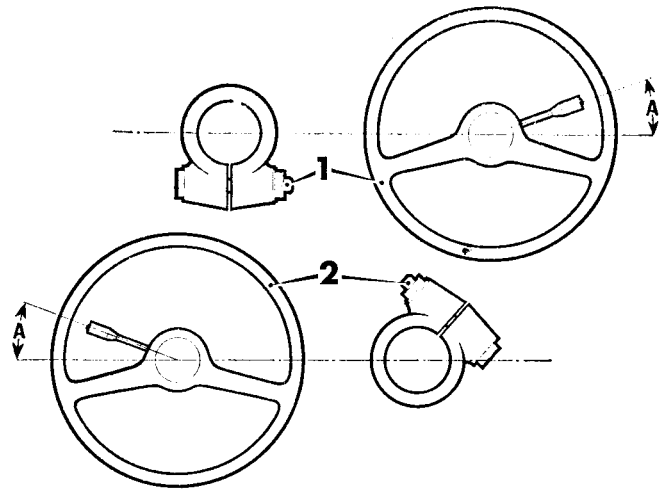

Fig. J.2
24. MK. II MODELS. Refit the column onto the pinion with the clamp bolt positioned as shown in Fig. J.2, and tighten to the torque figure given in 'GENERAL DATA'.
27. Ensure that the outer column and direction indicator lever is positioned as shown in Fig. J.2, i.e. with the indicator trip stud exactly between the two cancelling mechanisms of the switch.